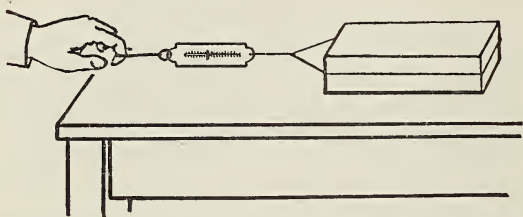

Fig. 113. You can measure friction by measuring the force of the pull required to overcome it.
these factors by means of several simple experiments with a brick and a spring balance placed on a table with a wooden top, as shown in Figure 113. (1) We place a small brick weighing 5 pounds upon the table and